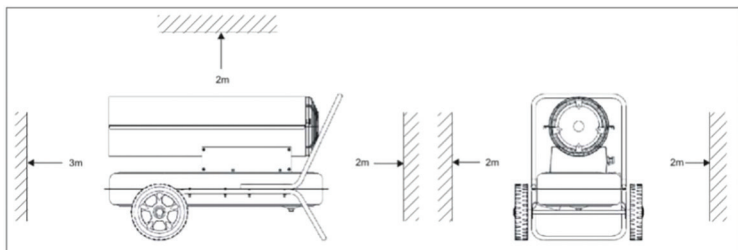

FIG. 1
- Do not place articles near the Heater. Keep all combustible materials away from Heater. Ensure the following minimum safety clearances from materials or objects in the surroundings of the Heater, see Fig. 1 below: